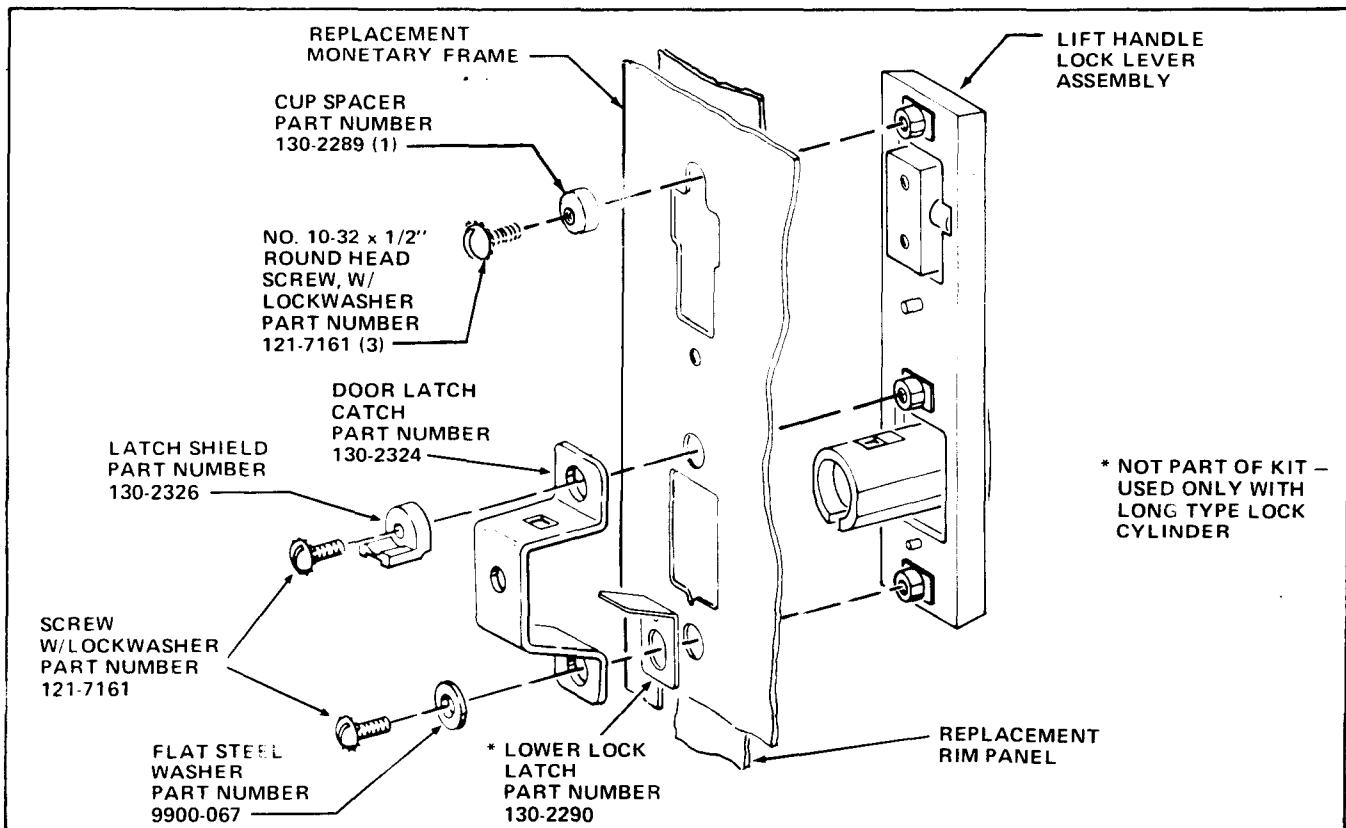
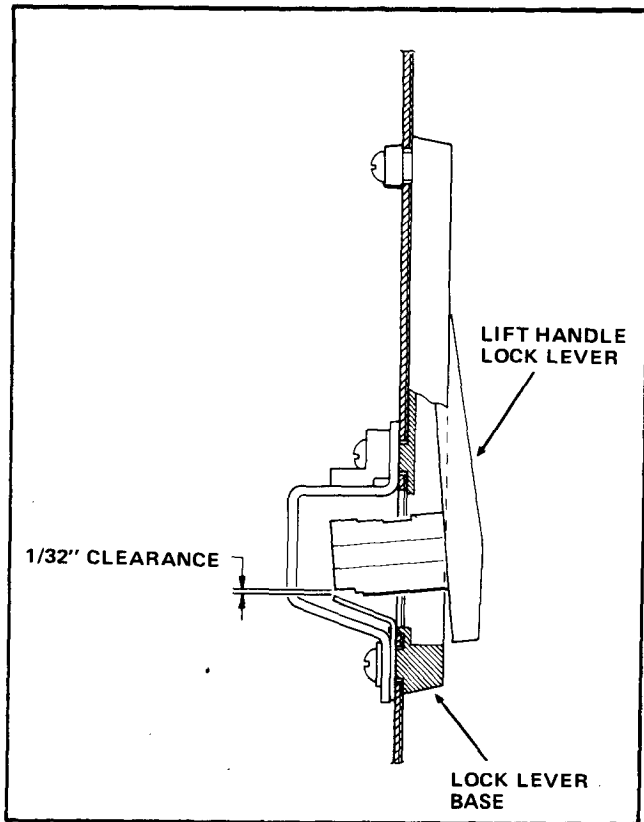

FIGURE 5
FIGURE 6
5. Install the Lift Handle Lock Lever Assembly in the cutout provided in the replacement Monetary Frame Trim Panel and replacement Monetary Compartment Frame with a No.10-32 x 1/2" Round Head Slot Screw W/Lockwasher, Part Number 121-7161, and a Cup Spacer, Part Number 130-2289, both parts included in Kit. See Figure 5.
*If long type Lock Cylinder is to be used, Lower Lock Latch, Part Number 130-2290, not included in Kit, should be installed on the lower attachment point of the Lift Handle Lock Lever Assembly. See Figure 5.*
6. Install the Lower Lock Latch, part number 130-2290 and the Door Latch Catch, part number 130-2324, included in the Kit, on the Monetary Compartment Frame. See Figure 5. Attach the parts with the Flat Steel Washer, part number 9900-067 and a Screw/Lockwasher, part number 121-7161, both of which are included in the Kit. See Figure 6 for the proper space adjustment of the Lower Lock Latch.
7. Install the Latch Shield, part number 130-2326, included in the Kit, and attach the Door Latch Catch and the Latch Shield with a Screw/Lockwasher included in the Kit. See Figure 5.